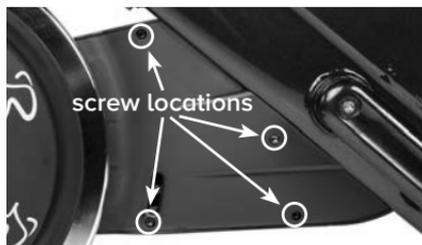

FIG. 4
- Remove the inner chain guard panel by removing the four screws with a 5mm hex key / Allen wrench (Fig. 4).